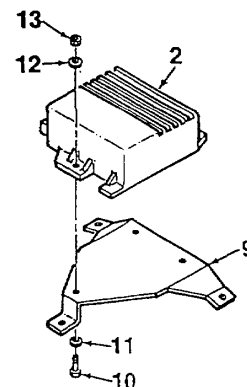

Figure 4-27. Voltage Regulator
2. Disconnect electrical connector (1, Figure 4-27) from voltage regulator (2).
3. Remove voltage regulator (2) from alternator by removing screw (3), lockwasher (4), and washer (5).
4. Remove voltage regulator (2) from fan shroud by removing screws (6), lockwashers (7), and washers (8).
5. Remove mounting bracket (9) from voltage regulator (2) by removing three screws (10), washers (11, 12), and locknuts (13).
1. Mate mounting bracket (9, Figure 4-27) to voltage regulator (2) and secure using three screws (10), washers (11, 12), and locknuts (13).
2. Secure voltage regulator (2) to alternator using screw (3), lockwasher (4), and washer (5).
3. Secure voltage regulator (2) to fan shroud using screws (6), lockwashers (7), and washers (8).
4. Connect electrical connector (1) to voltage regulator (2).